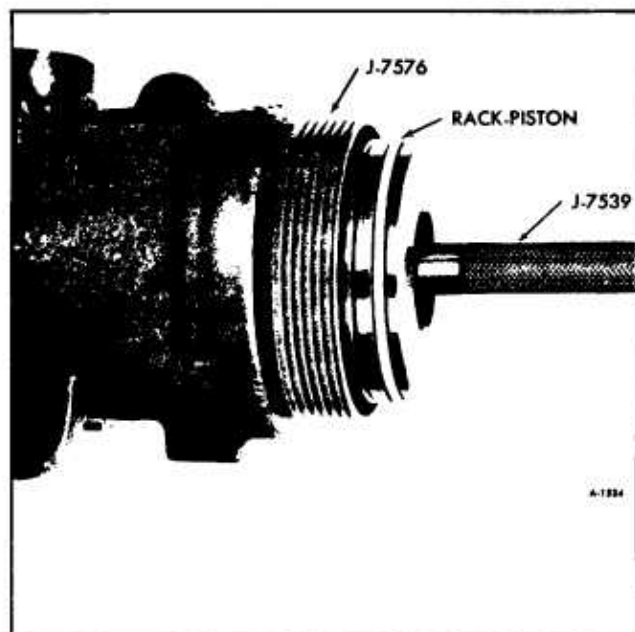

Figure 52—Installing Rack-Piston
- With Ball Retainer J-7539 in place in the rack-piston, push the rack-piston (with teeth toward pitman shaft opening), into the housing until Tool J-7539 contacts the center of worm (figure 52).